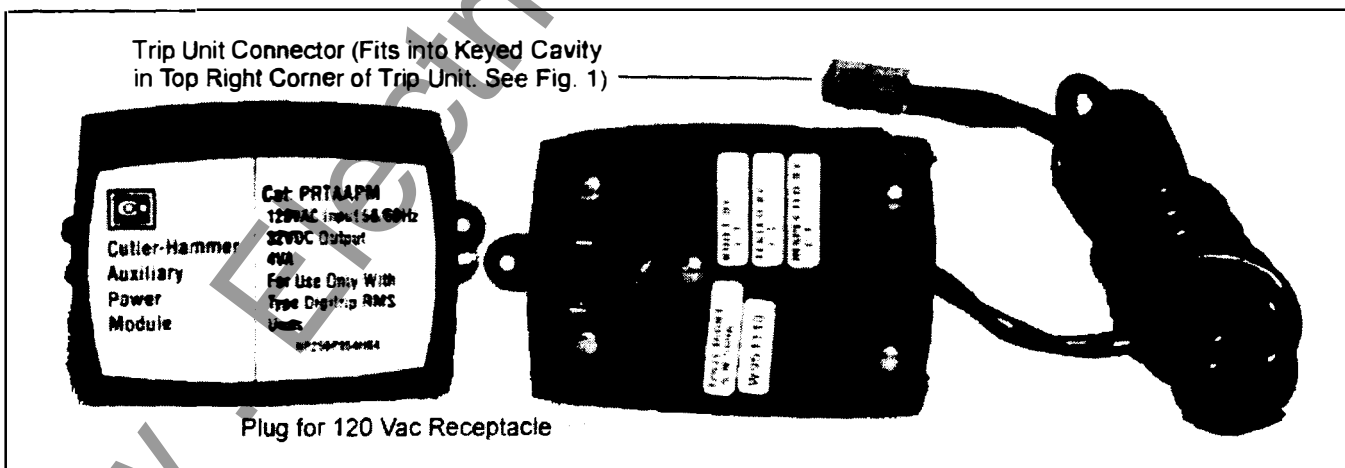

Fig. 7 Auxiliary Power Module
The Auxiliary Power Module or APM (Cat. No. PRTAAPM), illustrated in Fig. 7, is an encapsulated power supply that requires a 120 VAC input at either 50 or 60 Hz. It provides an output of 32 Vdc (nominal 40 Vdc open circuit) which is used during testing of the Digitrip RMS 810 Trip Unit, whenever 120 VAC control power is not available to the Power/Relay Module. (See Section 1.4.) When a drawout circuit breaker is equipped with a Digitrip RMS 810 Trip Unit, it can be conveniently set and tested while the circuit breaker is either out of its cell or in its cell in the "Test", "Disconnect" or "Withdrawn" positions by using the Auxiliary Power Module.
**Note: For Testing Purposes Only:** When using an external single phase current source to test low level ground fault current settings, it is advisable to use the Auxiliary Power Module (APM) (See Section 1.6 and Fig. 7).
Since the Digitrip RMS 810 Trip Unit is designed to run with control power from the Power / Relay Module for the display window and communications functions, all testing should be conducted with the control power available, either through the Power Relay Module or, when the breaker is outside the enclosure, through the Auxiliary Power Module (APM) (See Section 1.6 and Fig. 7). Although the Trip Unit is designed to perform all of its Protection Functions without the external control power, and without the display and communication functions available, results of the tests could be confusing. When performing a single-phase primary current injection test, for example, especially when the single-phase current is low, without the APM it may appear as if the Trip Unit does not respond until the current is well-above the set value, leading the tester to believe there is an error in the Trip Unit when there is none. The reason this occurs is that the single-phase test current is not a good simulation of the normal three-phase circuit. If three-phase current had been flowing, the Trip Unit would actually have performed correctly. Use the APM for correct Trip Unit performance whenever single-phase current injection tests are made.
- 1) **Before starting any test sequence, check the Unit Status (Green LED) in the lower right corner of the Trip Unit (See Figs. 1 and 9) to be sure it is blinking on and off about once each second, which indicates that the Trip Unit is functioning normally.** In the event the Unit Status LED is not blinking, install an Auxiliary Power Module (APM) (See Fig. 7), or if you have already installed one, check to see that it is connected correctly. (See Section 1.6.)
- 3) **When performing tests on the Long Delay element, be aware that in addition to the standard protection element, the Digitrip RMS 810 Trip Unit also has a Long Time Memory function (LTM), which serves to protect load circuits from the effects of repeated overload conditions. (See NOTE 1 under section 3.3 Long Delay Time Setting.) The action of the LTM during primary injection tests and during tests initiated from the Trip Unit Test Panel under the “TEST AMPS” setting of “6T”, will advance the Long Delay Trip Time if multiple Long Delay Time tests are performed repeatedly - as one might do in making single-phase tests on each pole of a breaker in succession, for example. If there is any question, you may simply wait about ten (10) minutes after a Long Delay Trip for the LTM to reset. The LTM is not active during tests initiated from the Trip Unit Test Panel under the “TEST AMPS” settings of “1”, “2”, “3”, “8”, or “10”.**